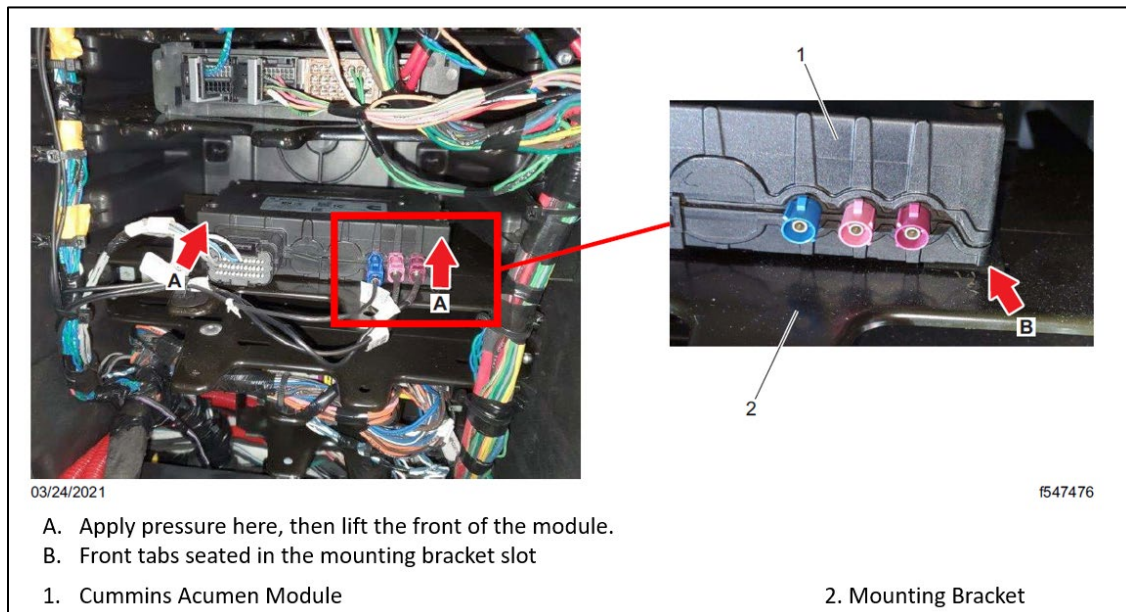

Fig. 9, Cummins Acumen Module Removal
2. Remove the Cummins Acumen module from the electronics bay by applying light pressure at the front of the module in order to push it backwards, then lift it to release the front tabs. See **Fig. 9**.